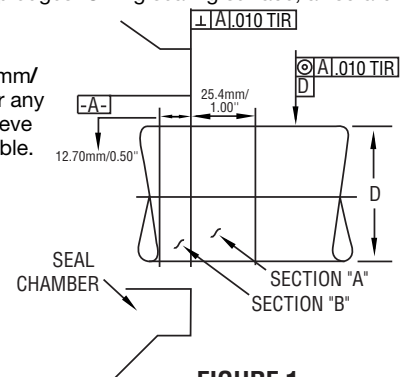

FIGURE 1
7. Inspect the shaft or sleeve for wear. Shaft conditions are specified in Figure 1. Mating ring adapter clamps to shaft and must be within tolerance.